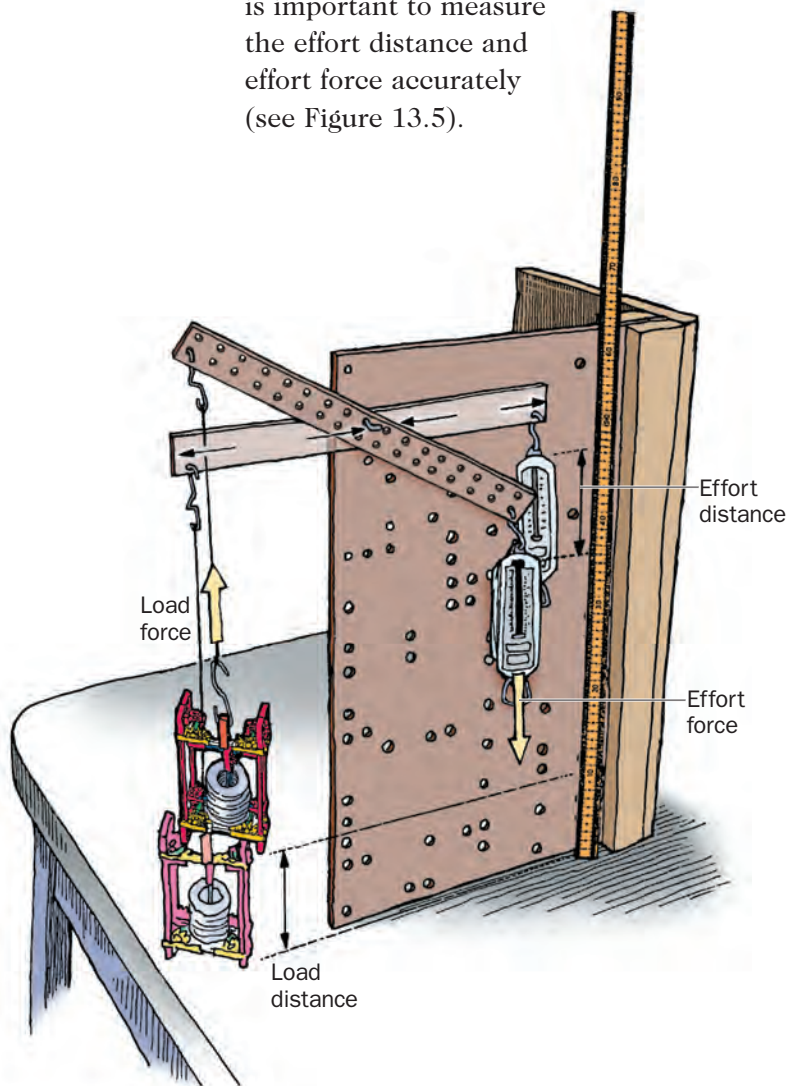

Figure 13.5 Effort distance and effort force when using the lever
4. You will investigate the relationship between the effort force you exert to raise the sled and the effort distance—the distance you pull the spring scale. It is important to measure the effort distance and effort force accurately (see Figure 13.5).